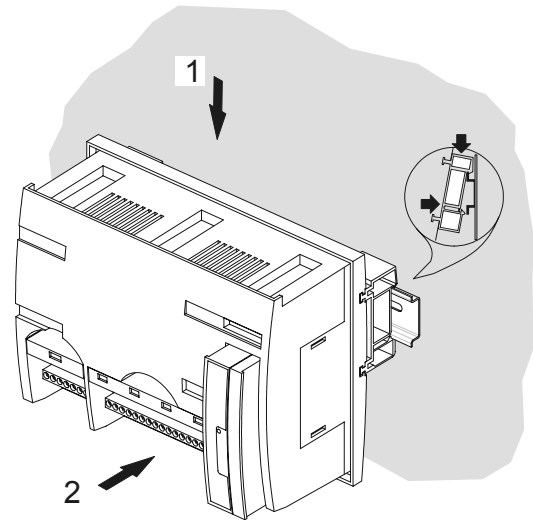

Fig. 13. Inside cabinet mounting (models w/o MMI) (b)
3. Mount the controller on the DIN rail (Fig. 13).